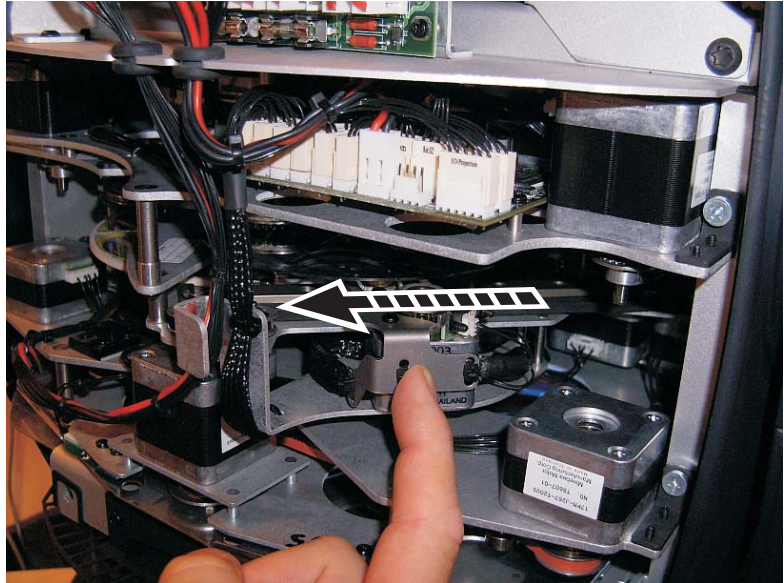

Figure 24: Animation wheel access
3. See Figure 24. Bring the animation wheel up to the top of the head by pulling its sliding car with a finger.
2. Move the gobo animation wheel as far as possible up towards the top of the head by pulling on its drive car as shown in Figure 24 on page 40. The animation wheel is glass. Do not apply pressure to it, or you may cause damage that is not covered by the product warranty.